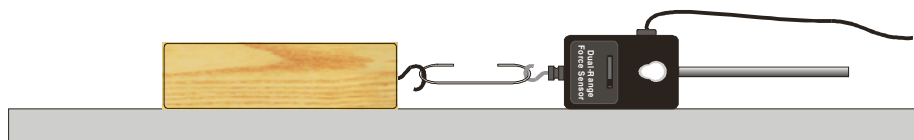

Figure 1
- a. Lay the Force Sensor on the tabletop in the position shown in Figure 1.
- c. Select CH1-FORCE (N) from the SELECT CHANNEL menu.